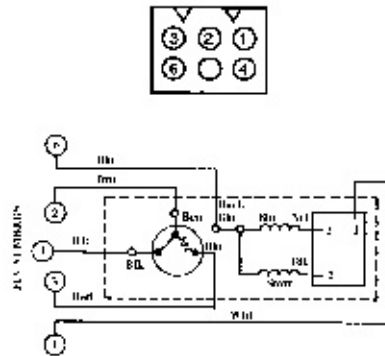

FIGURE 12. PIN NUMBERS
3. Problems in the gear motor electrical circuit. See FIGURE 12.
NOTE: Gear motor and related components can be checked from Pin Connector. See FIGURE 12.